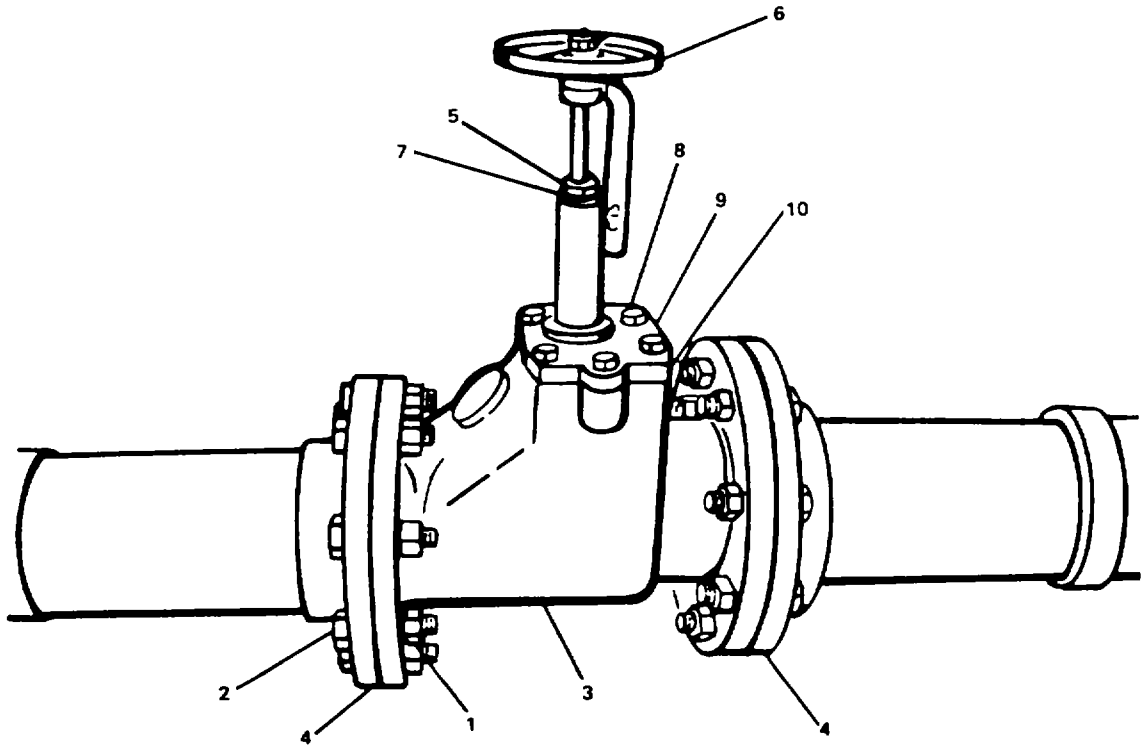

Figure 2-93. Replace/Repair Gag Scupper Valve.
- b. Remove hex head nuts (1, Figure 2-93) and bolts (2) from each side of valve.
- c. Remove valve (3) and gaskets (4) from piping system.